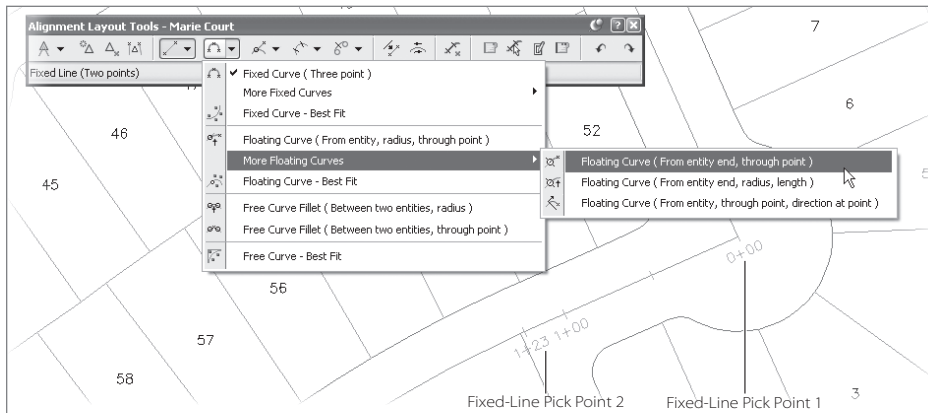

Figure 8.7
5. Right-click to exit the Fixed Line command. Your screen should look like Figure 8.7.
6. On the toolbar, select the Floating Curve (From Entity End, Through Point) command as shown in Figure 8.7.